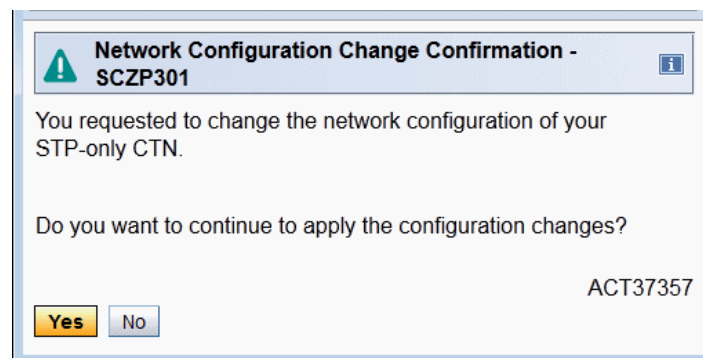

Figure 4-9 Configuration change confirmation - ACT37357
4. Select **Yes** on the configuration change confirmation panel (Figure 4-9).